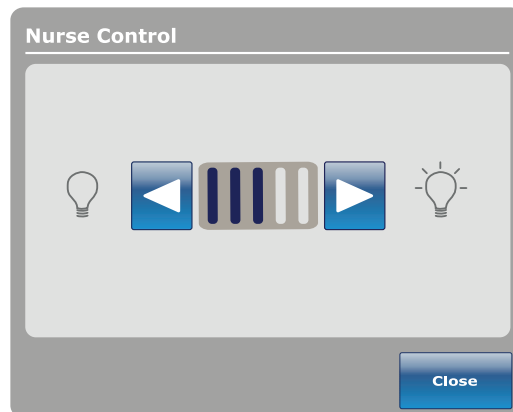

Figure 91: Nurse control LED intensity
2. Tap the left or right arrow (Figure 91 on page 85).
3. To save the LED intensity setting, tap **Close** (Figure 91 on page 85).